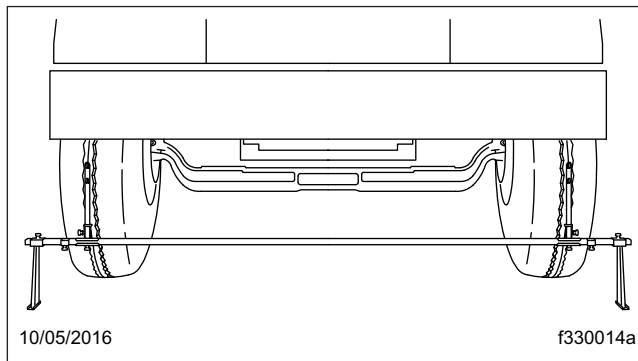
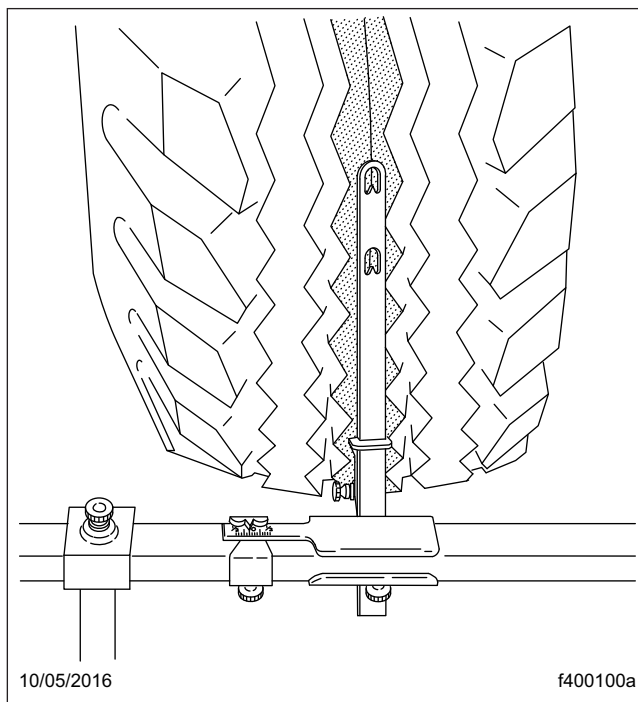

Fig. 9, Trammel Bar Positioning
Fig. 10, Setting Trammel Bar Pointers
7. Place the trammel bar at the front of the tires (see **Fig. 9**) and adjust the scale end so that the pointers line up with the scribe lines. See **Fig. 10**.